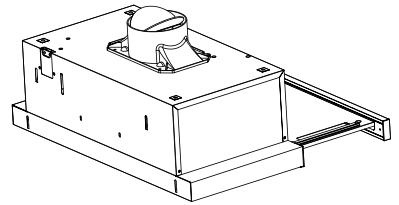

Fig. 2 Preparing for Install
- Attach ducting adaptor using the provided screws, see Fig. 2